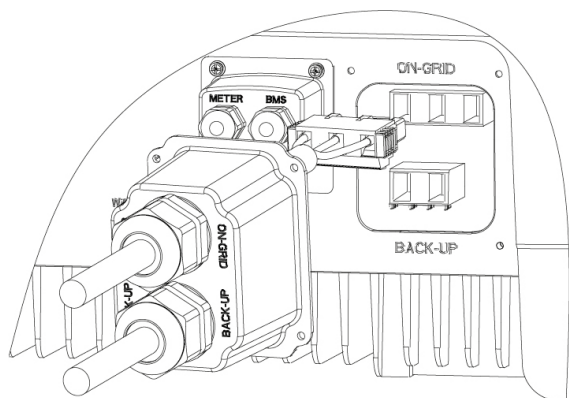

Fig. 55. AC ON-GRID connection.
7. Connect the AC ON-GRID connector to the AC ON-GRID terminal on the inverter, as shown in Fig. 55 below.